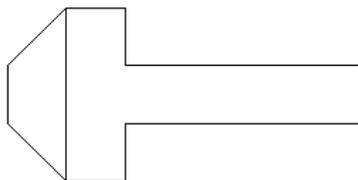

Figure 4-11: The completed drawing of a bolt.
17. Save your drawing. It should look like Figure 4-11.